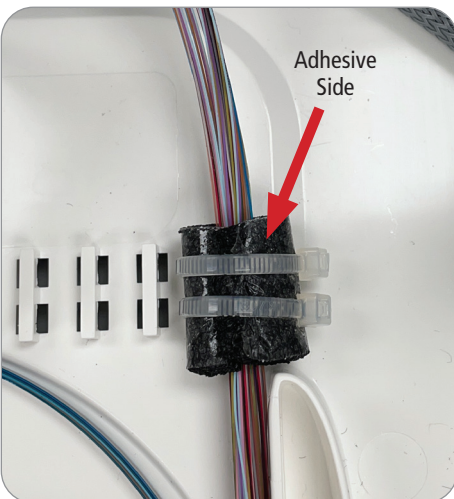
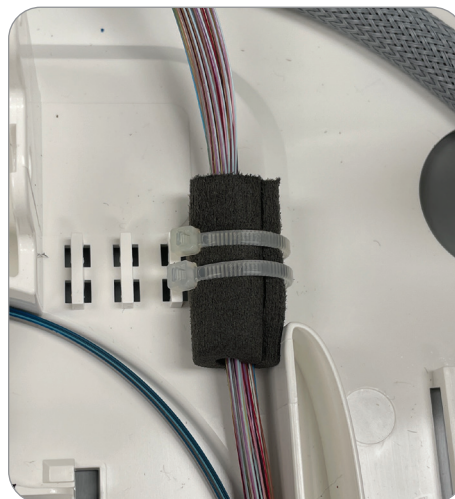

Figure 80
Figure 81
****NOTE**** If using SWR® or Ribbon, use the supplied foam with the **non-adhesive side down** (**Figure 80**). Alternatively, use the AFL WTC-SWR Foam Retention (AFL P/N: HW00406) to protect the bare fibers and secure with tie wraps (**Figure 81**). The fiber should have some movement after tie wraps are secured to ensure no attenuation.